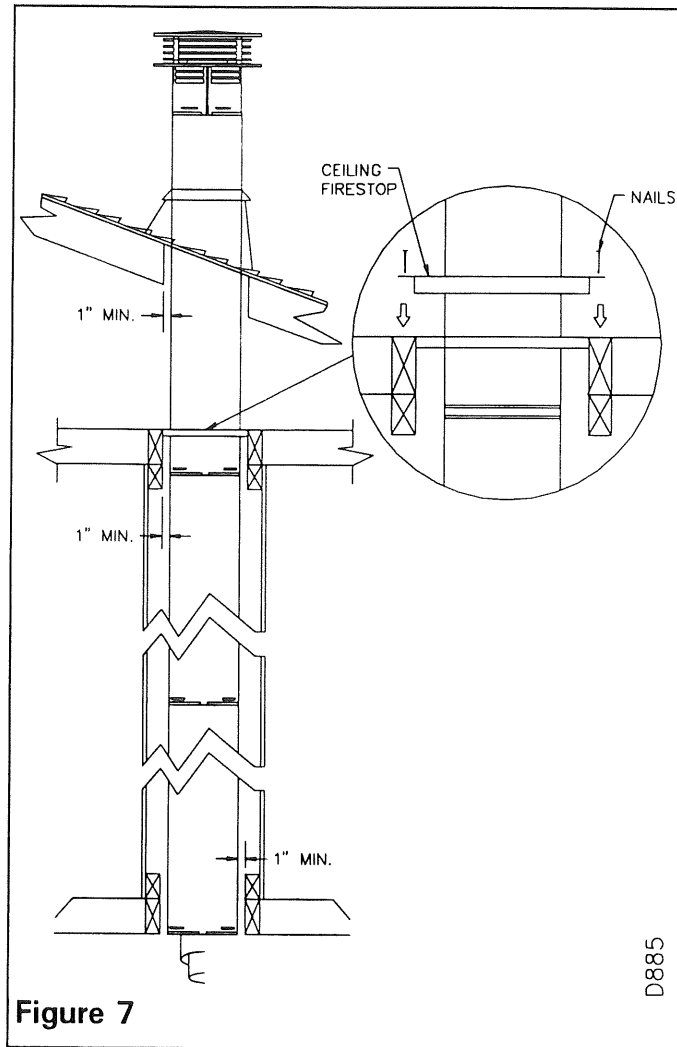

Figure 7
5) For vertical termination a roof flashing is required for proper installation see figure 7.